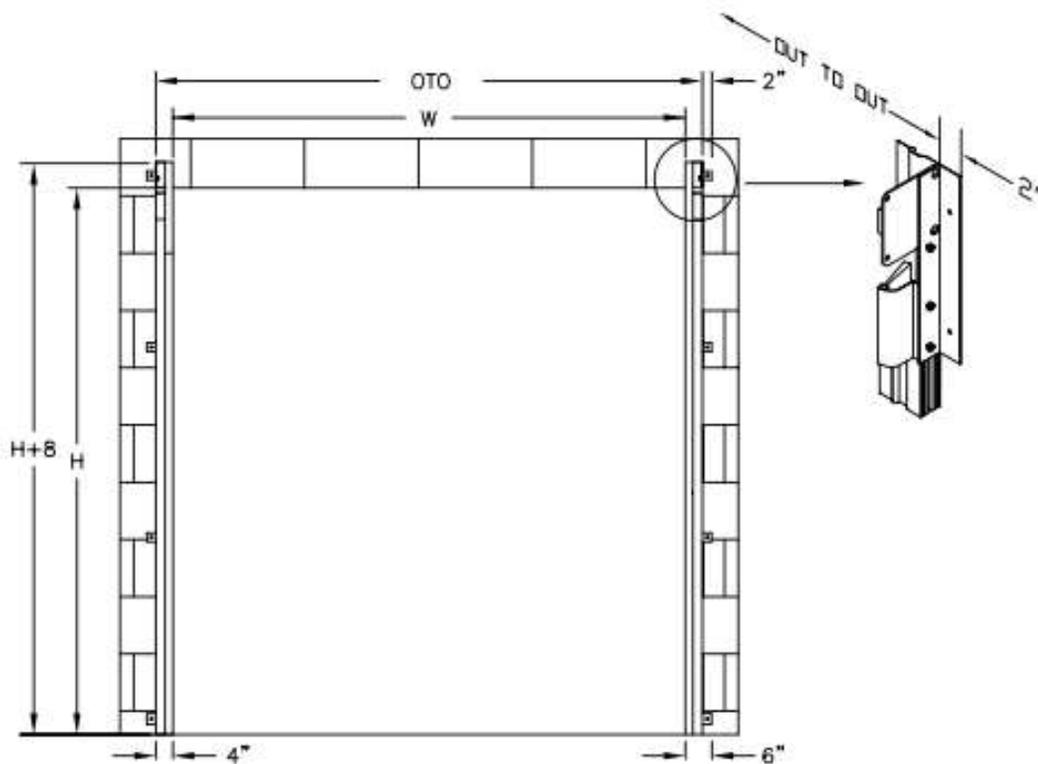

FIGURE 1
3. Mark the center of the door opening. Measure $\frac{1}{2}$ of the OTO (See front page) from the center line and mark the wall on both sides. (See Fig. 1).